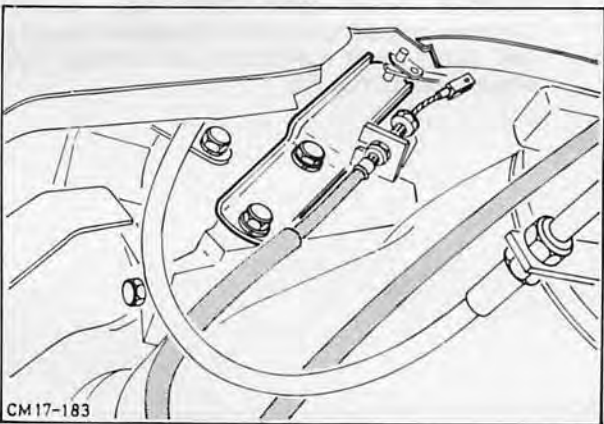

Fig. 62. Connect outer cable to upper bracket
- 8. Locate threaded coupling in upper bracket. Inner nut must be screwed completely on to threaded coupling, outer nut only a few turns, Fig. 62.